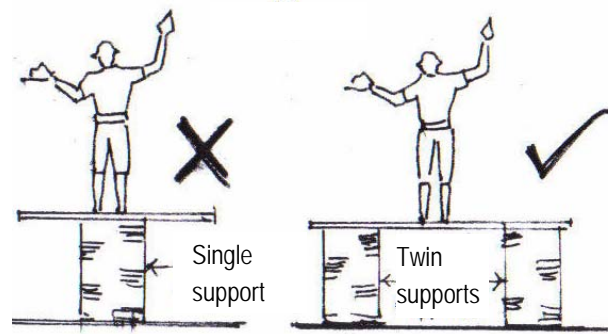

Fig 17- **Working platforms**
- Made sure that each work platform used by masons has two vertical supports for safety (See fig. 17)